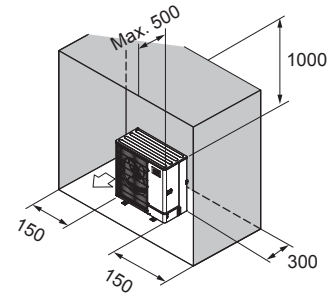

Fig. 1-27
- ⑥ Obstacles at rear, sides, and above only (Fig. 1-27)
(3) When installing multiple outdoor units (Refer to the next page)